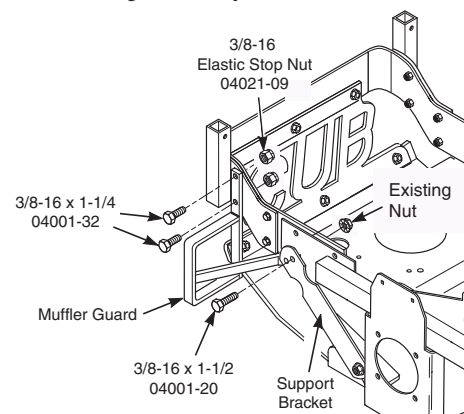

FIGURE 3-7
13. Remove the upper hex head bolt and serrated flange nut securing the support bracket to the frame of the machine. Retain the serrated flange nut for re-use. Install the muffler guard as shown and assemble to the frame of the machine by installing two (2) 3/8-16 x 1-1/4" hex head bolts through the rear holes in the RH hopper mounting bracket and secure with two (2) 3/8-16 elastic stop nuts provided. See Figure 3-7. Install the front mounting tab of the muffler guard between the support bracket and the frame of the machine. Secure with the 3/8-16 x 1-1/2" hex head bolt supplied with this catcher and the serrated flange nut removed previously.